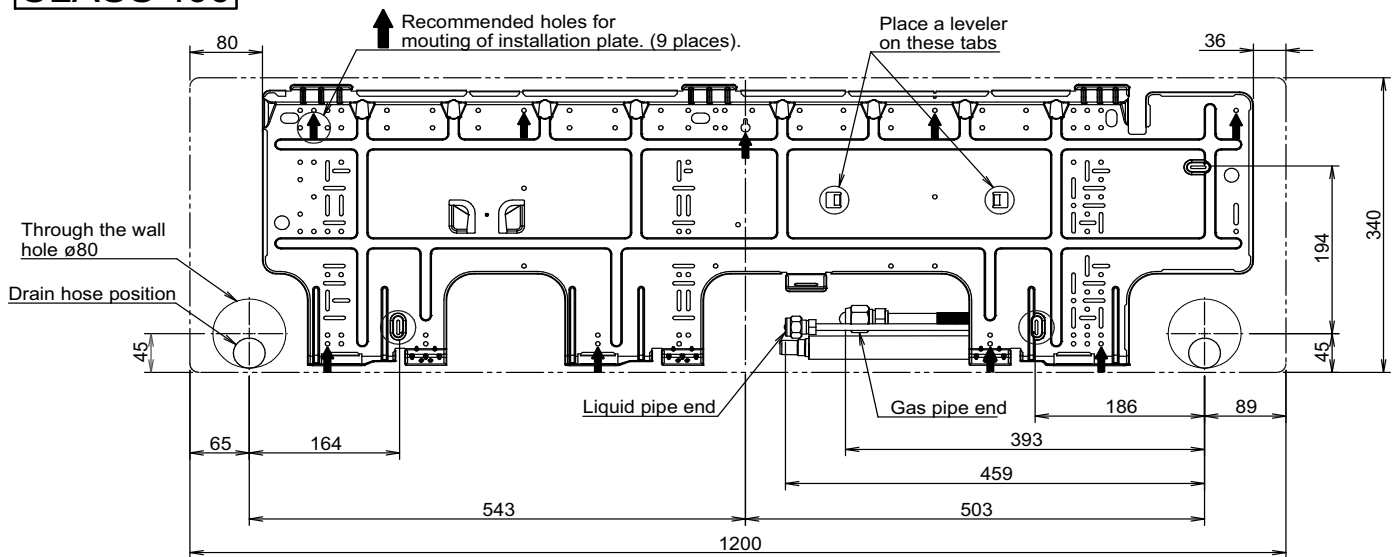

Fig. 6
(1) How to attach the installation plate (Refer to Fig. 6)